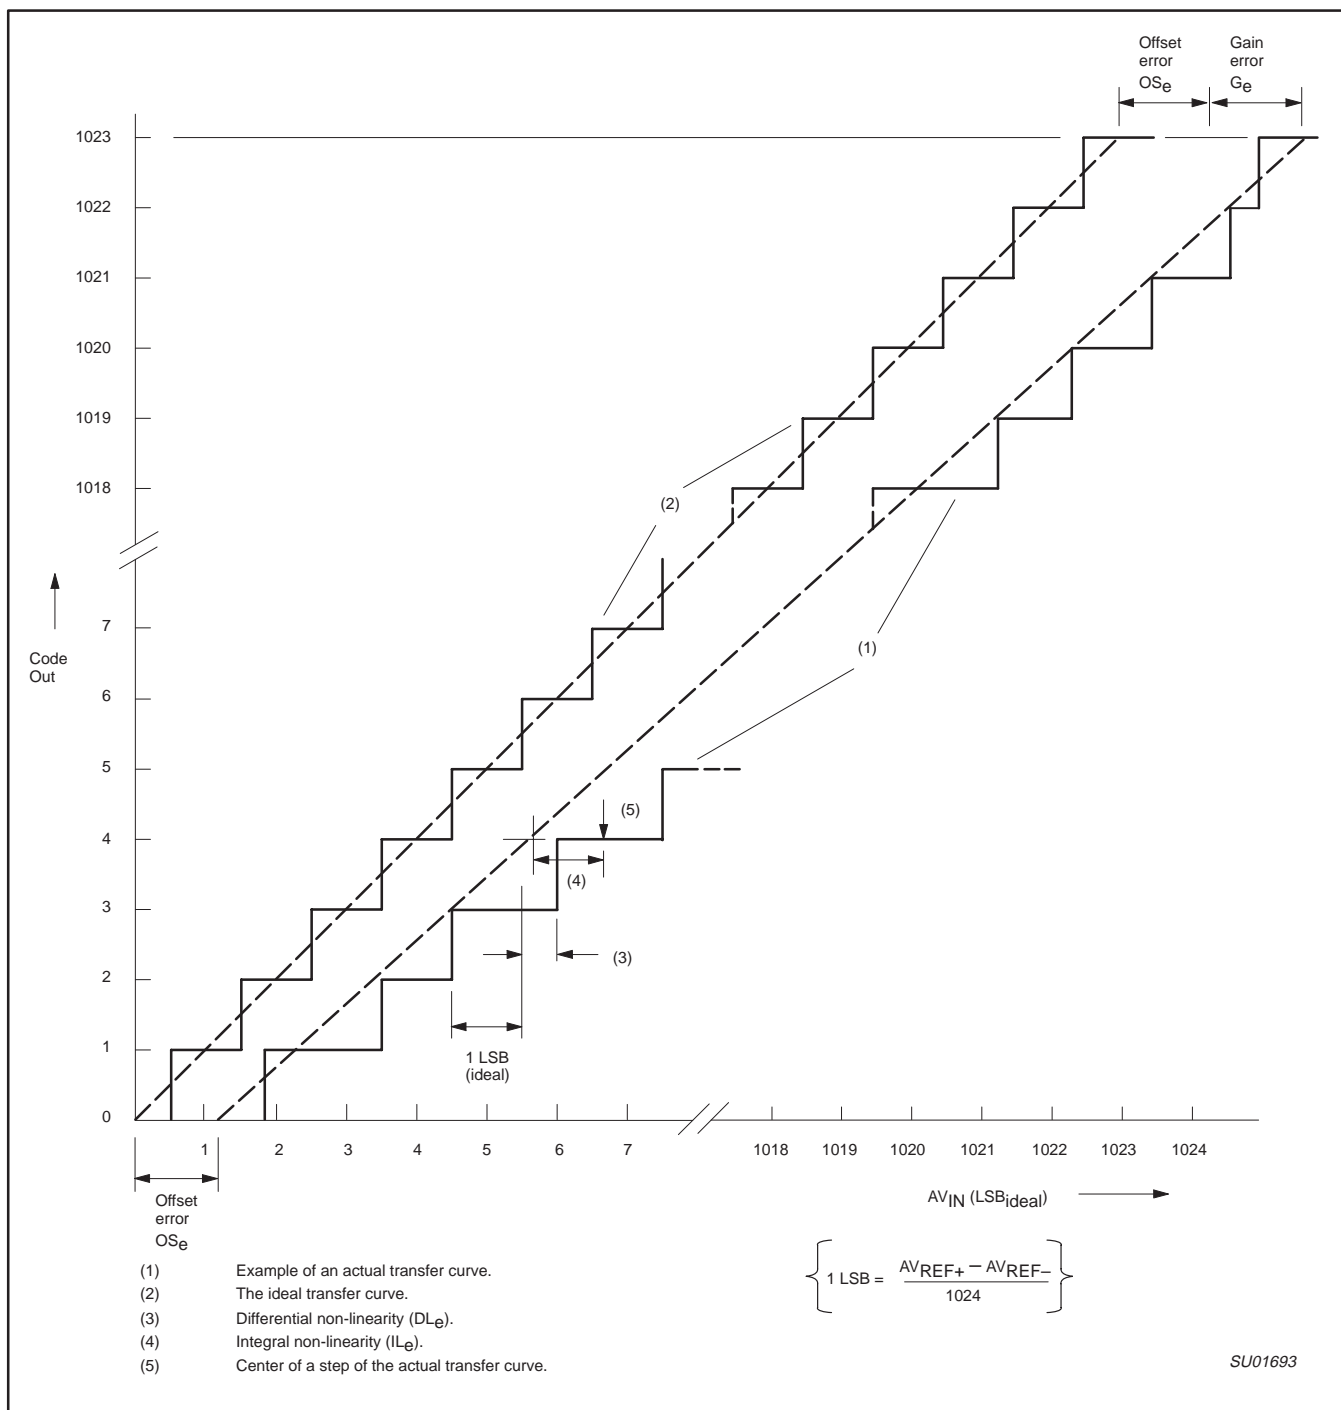

Figure 1. ADC Conversion Characteristic
- The differential non-linearity (DL_e) is the difference between the actual step width and the ideal step width. (See Figure 1.)
- The integral non-linearity (IL_e) is the peak difference between the center of the steps of the actual and the ideal transfer curve after appropriate adjustment of gain and offset error. (See Figure 1.)
14. The offset error (OS_e) is the absolute difference between the straight line which fits the actual transfer curve (after removing gain error), and a straight line which fits the ideal transfer curve. (See Figure 1.)
15. The gain error (G_e) is the relative difference in percent between the straight line fitting the actual transfer curve (after removing offset error), and the straight line which fits the ideal transfer curve. Gain error is constant at every point on the transfer curve. (See Figure 1.)